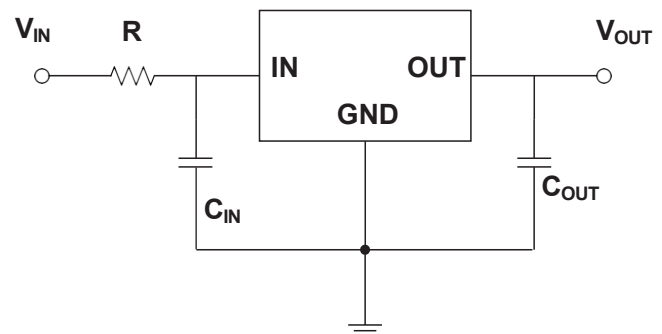

Figure 8-2. Resistance is used at IN
2. Place a resistor with appropriate resistance in series before the IN of the voltage regulator, which can help the voltage regulator share part of the energy in case of surge. The resistance value of the resistance should not be too large. The specific resistance value depends on the application of the circuit. Generally, the resistance value of this resistance does not exceed 20Ω. As shown in Figure 8-2.
For the VS78M00E series, it is recommended that the input voltage should not exceed 17V and the peak voltage should not exceed 35V. **When the input voltage is greater than 17V, or the peak voltage that may be greater than 35V may appear in the practical circuit, it is recommended to adopt the circuit layout shown in Figure 8-2 in the circuit design.**
The VS78M00E series can obtain better transient response with the help of output capacitance. However, if the output capacitor is relatively large, the surge current generated by the charging of the output capacitor will also be large at the moment of power on of the regulator, and the large surge current passing through the regulator may damage the internal circuit. When the output capacitance is large, adopting the circuit design shown in Figure 8-2 will reduce the possibility of damage to the device due to large surge current to a certain extent. It is recommended that the selection of output capacitor should not exceed 20 μ F. **If the selection of output capacitor exceeds 20 μ F, it is recommended to adopt the circuit design in Figure 8-2 to reduce the possibility of accidental failure of the device due to large surge current during power on.**
It is recommended that the output capacitor (C_{OUT}) should not exceed 20 μ F. When the output capacitor (C_{OUT}) exceeds 20 μ F, it is recommended to use the circuit layout shown in Figure 8-2. See *Large Output Capacitance* for more details.